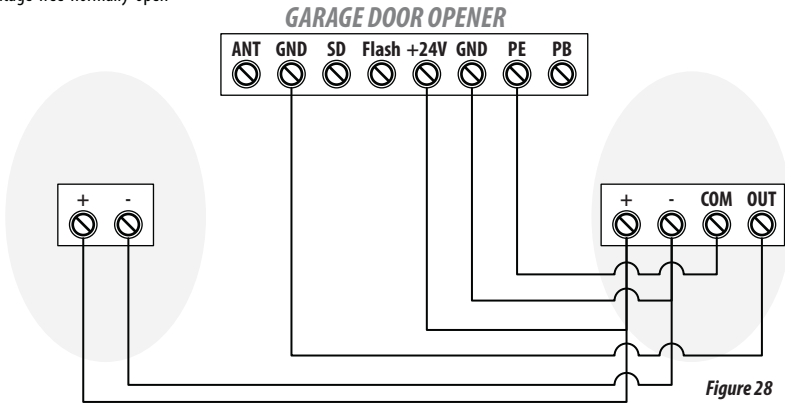
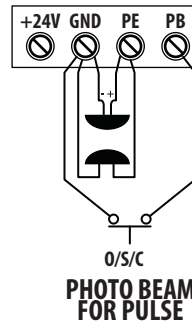

Figure 28
Figure 29
Normally Closed contacts to the accessory terminals of the opener (Fig.28, Fig.29).
The **O/S/C** facility can be used for an external push button switch to operate the opener. The switch must have voltage free normally open NO contacts (Fig. 29)
1. The O/S/C interfaces available. (Fig. 29)